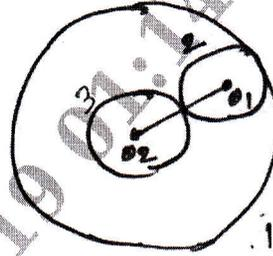

Fig. Q5 (b)
b. An epicyclic gear train consists of 3 gears 1, 2, 3 as shown in Fig. Q5 (b). Internal gear 1 has 32 teeth. Gear 2 meshes with both 1 and 3 and carried an Arm A which rotates about  $O_2$  at 20 rpm. If gear 1 is fixed find speed of 2 and 3.